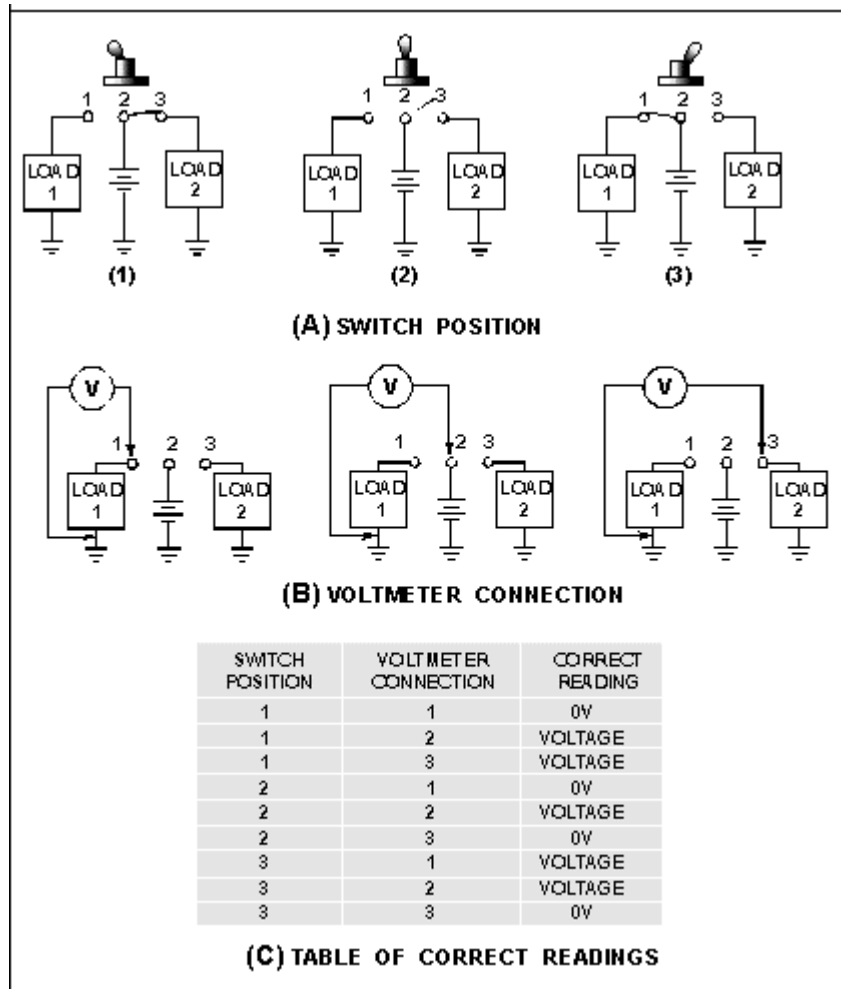

Figure 3-16.—Table of correct readings.
Figure 3-16(A) shows a switch connected between a power source (battery) and two loads. In figure 3-16(B), a voltmeter is shown connected between ground and each of the three switch terminals while the switch is in position 1. Figure 3-16(C) is a table showing the switch position, voltmeter connection, and the correct voltmeter reading.
With the switch in position 1 and the voltmeter connected between ground and terminal 1, the voltmeter should indicate no voltage (0V). When the voltmeter is connected to terminal 2, the voltmeter should indicate the source voltage. With the voltmeter connected to terminal 3, the source voltage should also be indicated. The table in figure 3-16(C) will show you the correct readings with the switch in position 2 or 3.